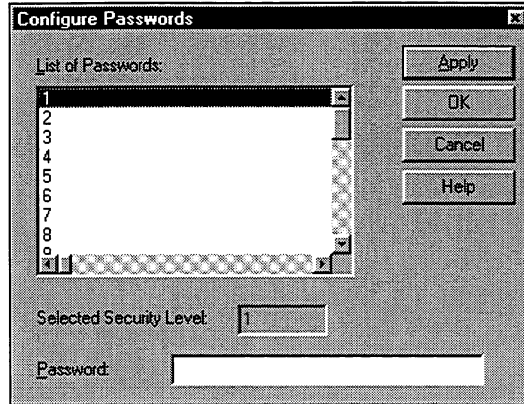

Figure 6-6. Configure Passwords Dialog Box
1. In the Application Navigator, select the Passwords command on the Configure menu or the Passwords button. The Configure Passwords dialog box opens, as shown in Figure 6-6.